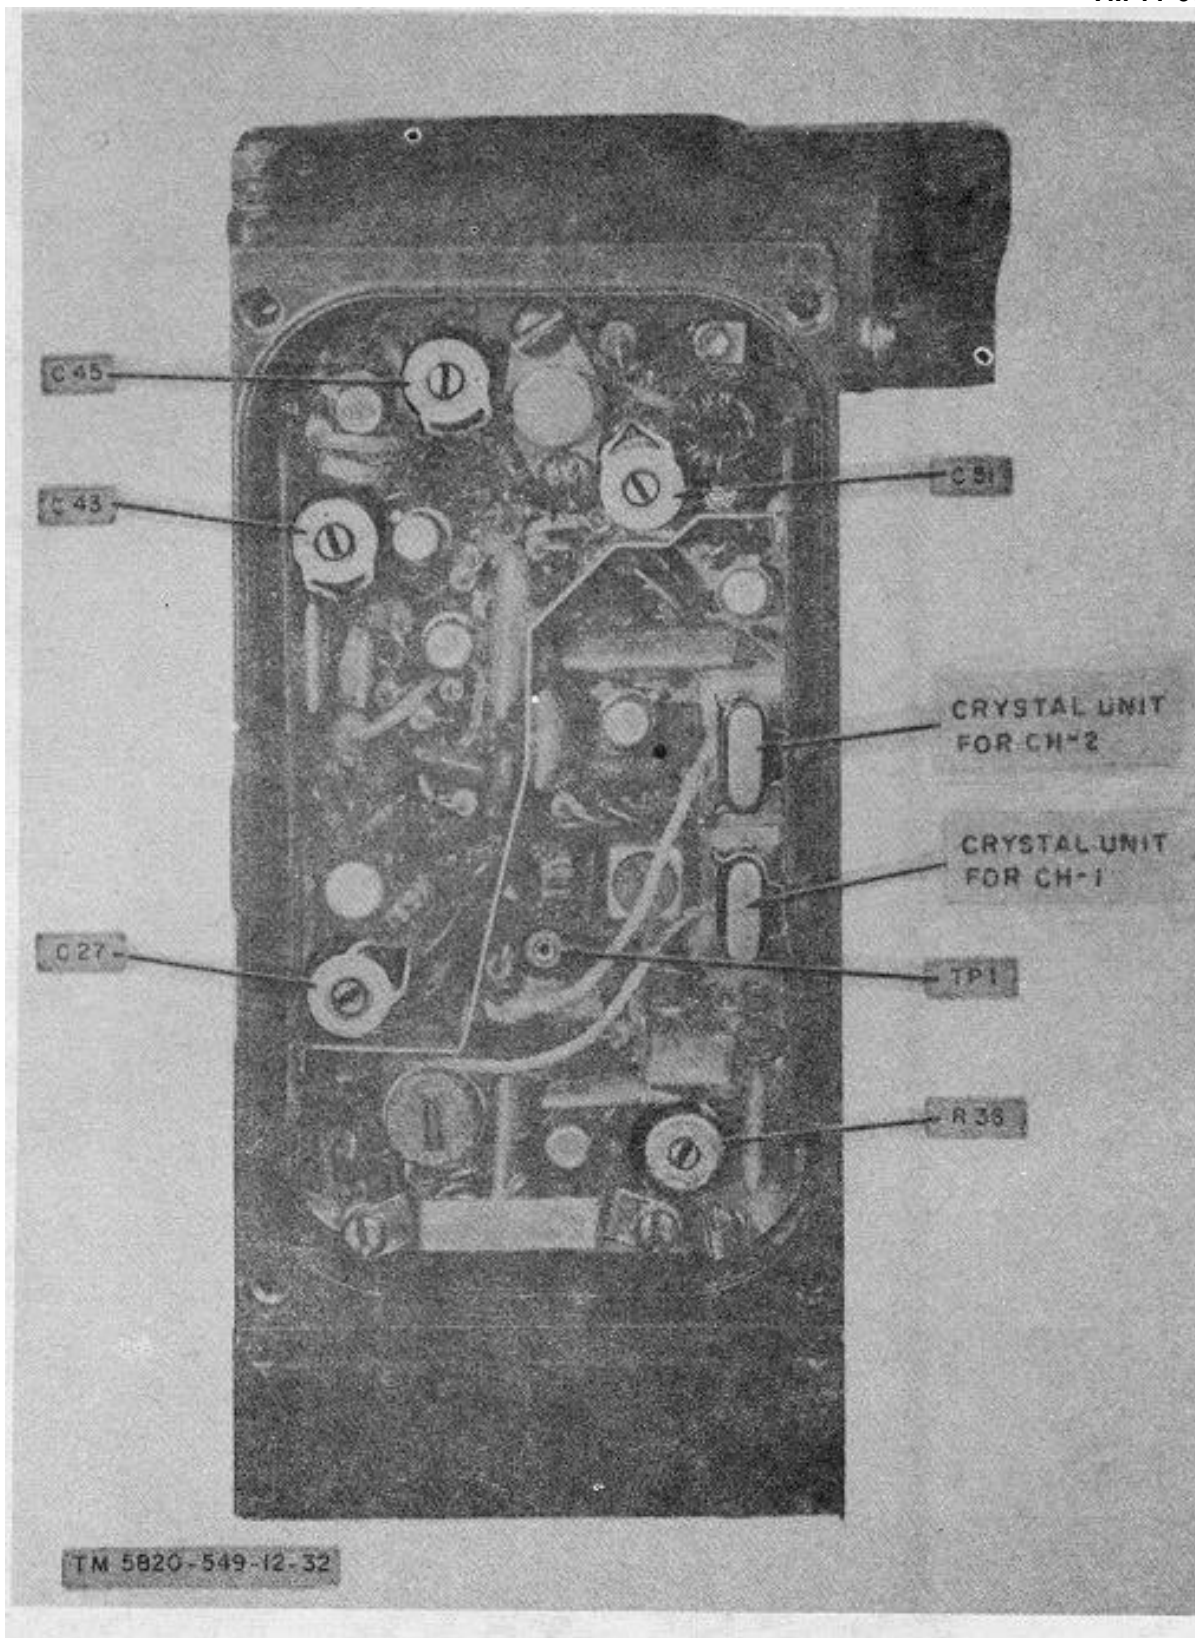

Figure 3-9. Transmitting Set, Radio AN/PRT-4, alignment adjustments.
(figs. 3-9 and 310)
- d. Plug the ID-1189/PR TEST PROBE into AN/PRT-4 test point TP 1 (fig. 3-9) and press the AN/PRT-4 TONE-VOICE switch in the direction of the VOICE arrow. All AN/PRT4 alignment procedures are accomplished with the TONE-VOICE switch pressed in the direction of the VOICE arrow.
- e. Using the alignment tool, adjust AN/ PRT-4 C27 (fig. 3-9) for a center of ALIGN scale meter indication on the ID-1189/PR. Adjust C27 clockwise if the new channel frequency is lower than the old frequency, or counterclockwise if the new channel frequency is higher than the old frequency. One turn gives approximately a 1-megacycle change. At the proper setting, a slight back and forth adjustment of C27 will cause the meter pointer to deflect back and forth between the calibration marks on each side of the center of the ALIGN scale mark.
- f. Set the AN/PRT4 CH-1-CH-2 switch to CH-2 and hold the TONE-VOICE switch in the direction of the VOICE arrow. Adjust R36 (fig. 3-9) for a center of ALIGN scale meter indication in the same manner as the C27 adjustment in e above.
- h. Set the ID-1189/PR FUNCTION switch to XMTR-RF. Continue to hold the TONE- VOICE switch in the direction of the VOICE arrow. Adjust AN/PRT4 C43 (fig. 3-9) for a maximum meter indication, and then turn C43 clockwise to reduce meter indication to three-fourths of the maximum indication.